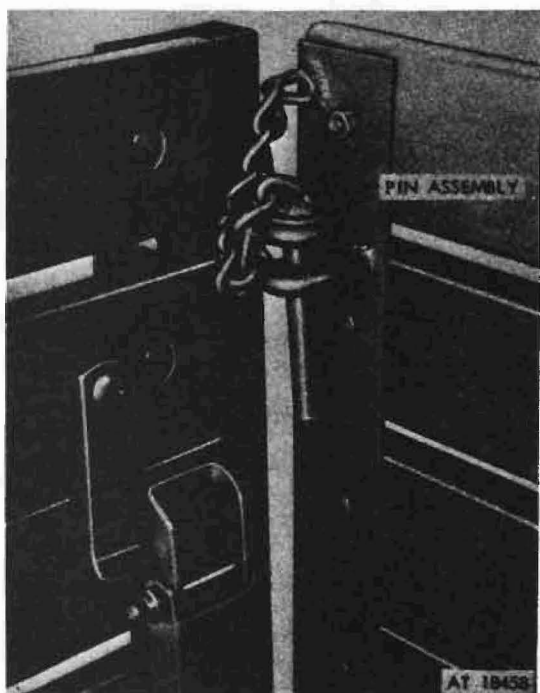

Figure 173.6. Front rack locking pin.
(4) Refer to figure 173.6 and remove locking pin.
(5) Fold troop seat and remove rack and troop seat by lifting rack from sockets.
- (2) Position the front rack in the rack sockets and press the rack down into the sockets.
- (3) Install front locking pin (fig. 173.6).